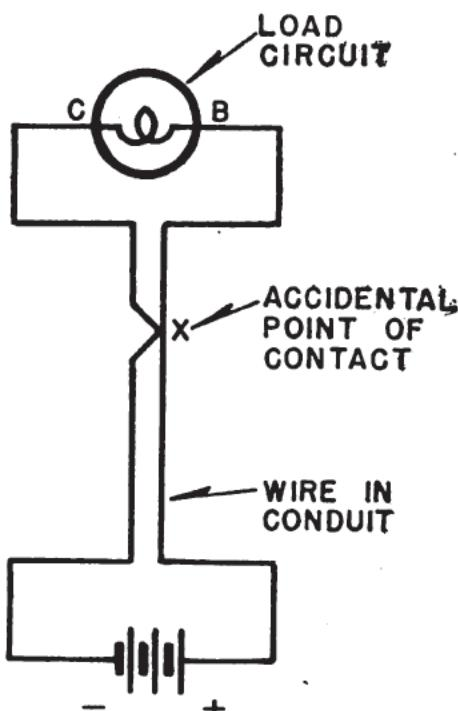

Figure 61.—Short circuit.
In figure 61, the circuit normally has only one path for current. This path is, of course, the load circuit itself. If the wires touch at (X), then two paths for current exist. One is through the load circuit (+, B, D, -). The other is through the short (+, X, -).